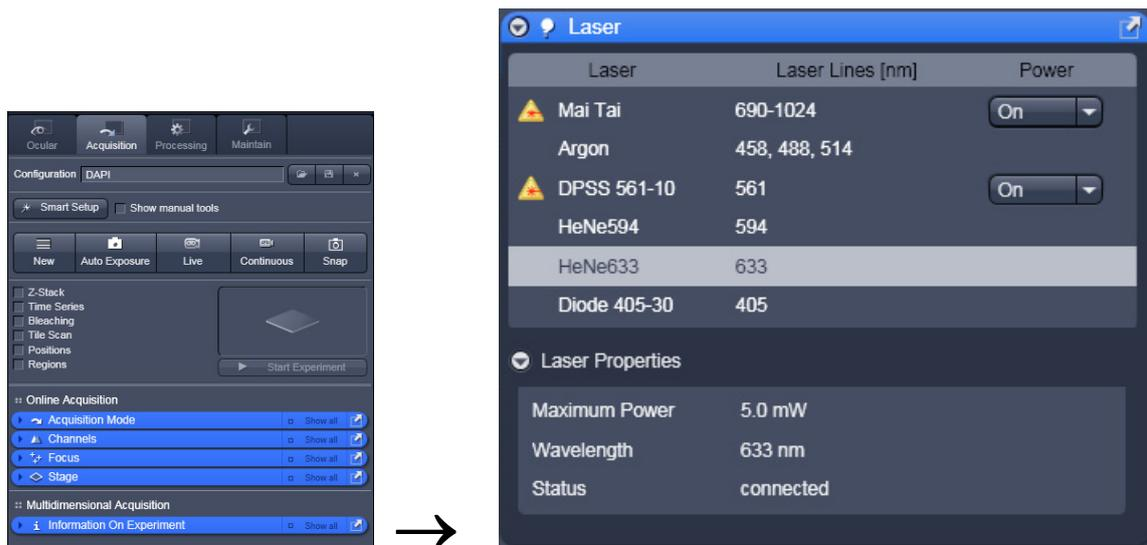

Fig. 10 Laser Control tool
- Click the **show manual tools** tickbox and open the **Laser** tool. All available lasers can be operated within this tool (Fig. 10).